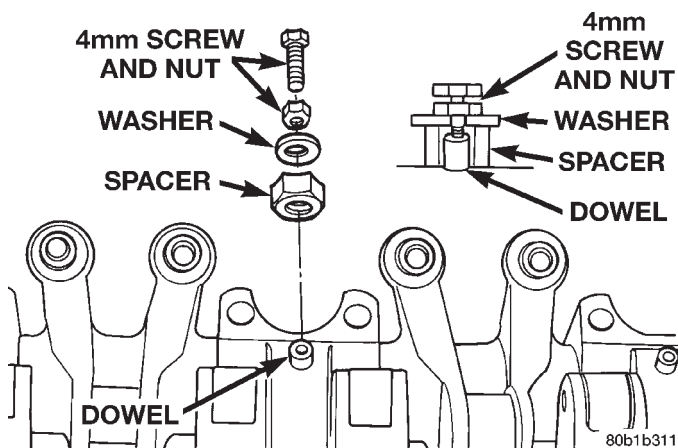

Fig. 56 Rocker Arms and Shaft—Disassembly
(1) Remove dowel pin using a 4 mm screw, nut, spacer, and washer installed into the pin (Fig. 56). Tighten the screw into the pin, then loosen the nut on the screw. This will pull the dowel out of the shaft support. Do not reuse dowel pins. Remove the rocker arms and pedestals in order.